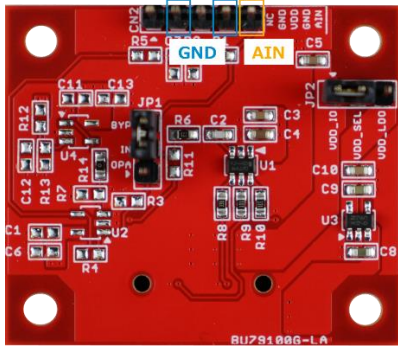

Figure 3. CN2 pin position
1. Input analog signals to AIN and GND of CN2 on BU79100G-LA-EVK-001. (Figure. 3)